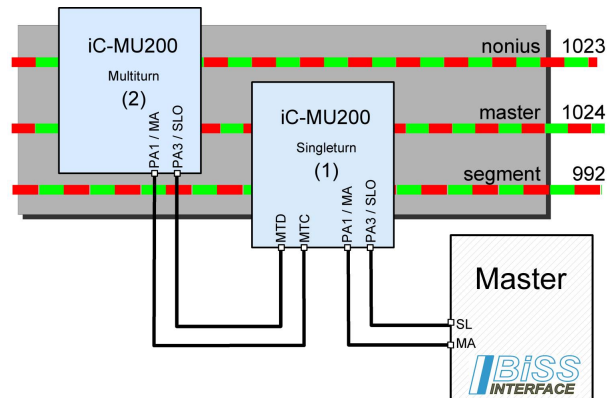

Figure 43: 3-track nonius with 2 iC-MU200
The construction of such a system is shown as an example in Figure 43 and the configuration in Table 71.
To facilitate the initial configuration of an iC-MU200 as a SSI multitrurn device the command SWITCH can be used (see page 58). The singleturn iC-MU200 (1) in Figure 43 has to enable the direct communication to the multitrurn sensor by setting GET_MT to 1. The configuration of iC-MU200 (2) can take place using the BiSS protocol. After the configuration of the external multitrurn MODEA_NEW and RPL_NEW are used to set the target configuration of MODEA and RPL. After that the command SWITCH is executed. By reading STATUS1 it is possible to control if there was an error while executing the command. After the next startup or after the execution of the command SOFT_RESET iC-MU200 starts with the interface configured with MODEA_NEW and RPL_NEW.